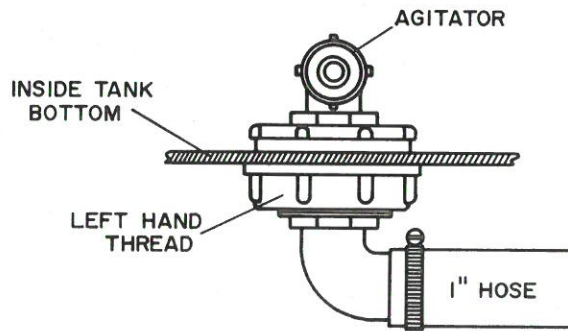

Fig. 7
STEP 4: INSTALL $\frac{3}{4}$ " AGITATOR ASSEMBLY TO THE INSIDE BOTTOM OF THE TANK, ALSO INSTALL 2" ANTI-VORTEX TO THE INSIDE BOTTOM OF TANK. REFER TO FIGS. 7 & 8. AGITATOR SHOULD BE POINTED AWAY FROM ANTI-VORTEX AS VIEW FROM TOP OF TANK FIG. 9 SHOWS.
STEP 5: SCREW IN $\frac{3}{4}$ " x 90° ELBOW IN AGITATOR ASSEMBLY AND ALSO SCREW IN $1\frac{1}{2}$ " x 90° ELBOW INTO ANTI-VORTEX ASSEMBLY. SECURE WITH SILICONE OR TAPE. BARB ENDS SHOULD BE FACING FRONT OF MACHINE. CONNECT 1" HOSE TO AGITATOR ASSEMBLY PLUS INSTALL $1\frac{1}{2}$ " HOSE TO ANTI-VORTEX. REFER TO FIGS. 7 & 8. WHILE UNDER TANK CONNECT 1" HOSE TO CENTRE BOOM. SECURE ALL ABOVE HOSES WITH HOSE CLAMPS. **NOTE:** FOR ABOVE LENGTHS FOR HOSES TURN TO HOSE LENGTH CHART ON PAGE 21. FIND RIGHT TANK AND MACHINE AND LENGTHS ARE THEN GIVEN.